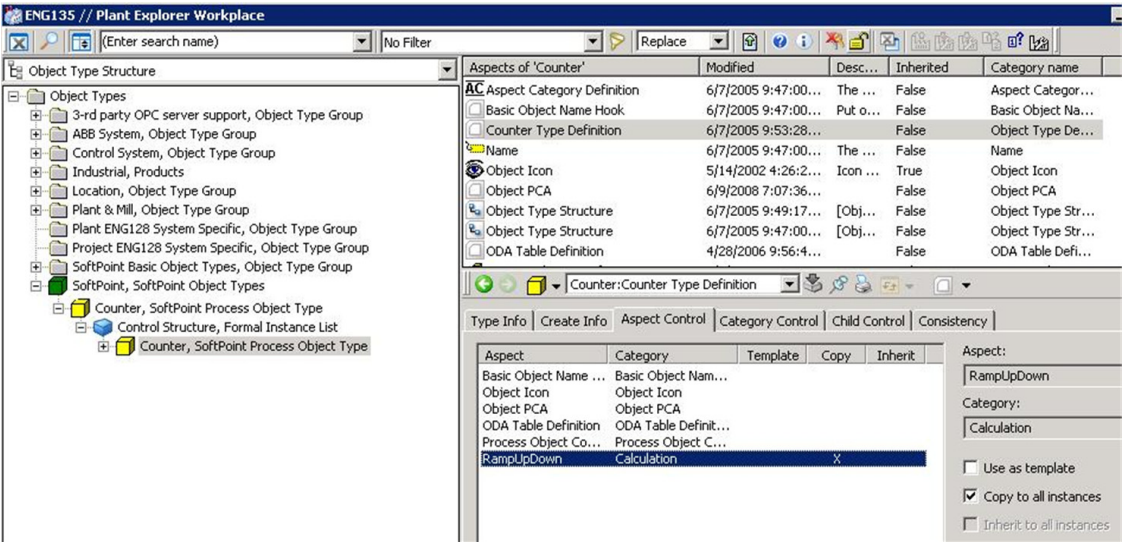

Figure 66. Type Definition Aspect
1. Go to the Type Definition aspect for the object type. Figure 66 shows an example of an object type named ProcessDataSim.